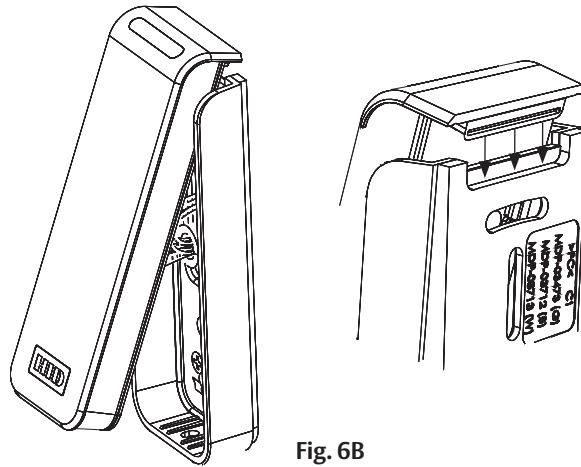

Fig. 6B
2. Hook the top of the reader on the top of the mounting plate (Fig. 6B).